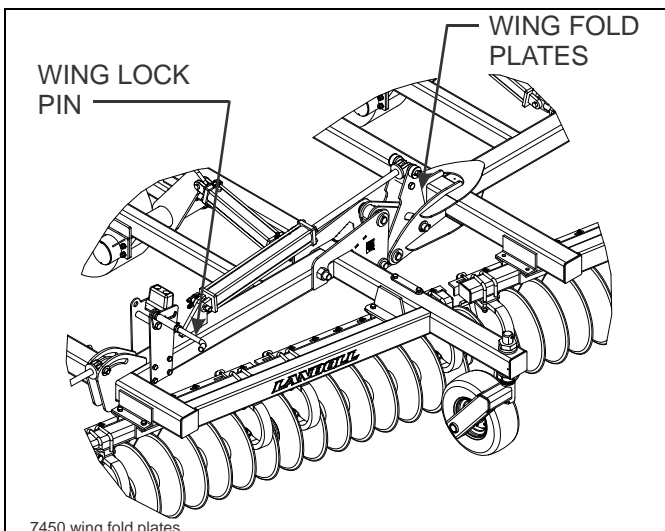

Figure 4-8: Wing Fold Plates
4. Continue to hold lever until the fold cylinders are fully extended to lock the outer wing fold plates (See Figure 4-8.) This will allow the wings to fully flex in the field.